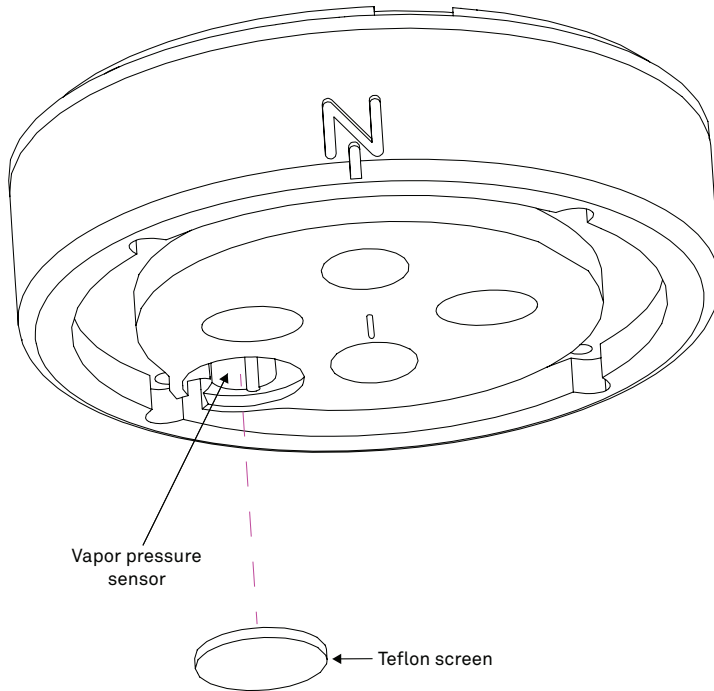

Figure 40 Teflon screen
- d. Observe the Teflon screen (Figure 40)